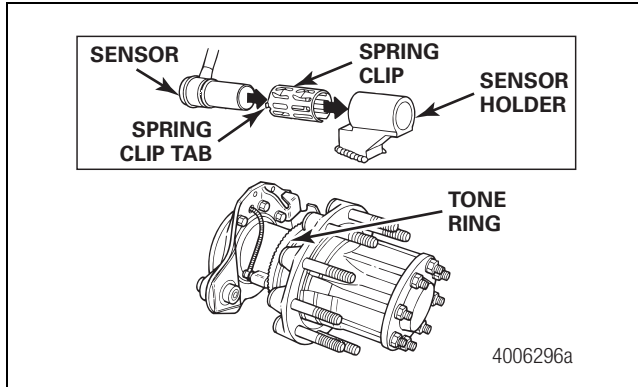

Figure 23
- Push the sensor completely into the sensor spring clip until it contacts the tone ring. Figure 23.